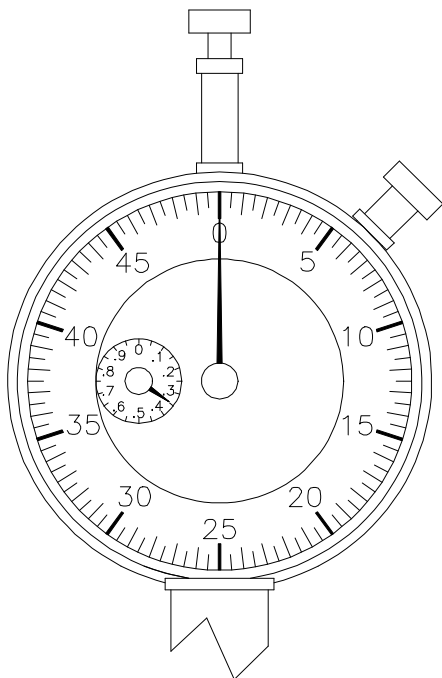

Figure 3.8: Dial Indicator at 0.3500
1. With the engraved arrow on the angle indicating apparatus at the 3 o'clock position (reference Photo A, Chapter III - page 6), set both dial indicators to 0.3500" (see Figure 3.8, Chapter III-page 25). Rotate the angle indicating apparatus 180 degrees in the mold carriage so that the engraved arrow is at the **9 o'clock position** (Photo E, item 1). If the zero degree position is correctly set, the dial indicator readings will remain within 0.3500" \pm 0.001" at the 9 o'clock position. If so, proceed to section 6.3, Chapter III - page 12. If the dial readings do not remain within 0.3500" \pm 0.001" at the 9 o'clock position, the zero degree position is incorrect and must be reset, proceed to step 2.
2. With the angle indicating apparatus at the **9 o'clock position**, set both dial indicators to 0.3500" (see Figure 3.8, Chapter III-page 25). Rotate the angle indicating apparatus (180 degrees) to the **3 o'clock position** (reference Photo A, Chapter III - page 6). Note the direction and the amount of change required to return dial A to 0.3500" (dial A is the left dial with the angle indicating apparatus at the 3 o'clock position). For example, if dial A reads 0.3515" the zero degree position must be raised 0.0015" to return the dial to 0.3500". Proceed to step 3 for instruction on adjusting the zero degree position.
1. Place the angle indicating apparatus so that the engraved arrow (Photo G, item 1) is at the 3 o'clock position. Press the ANGLE key and the UP ARROW key to tilt the mechanism to the inclined position so that the mold carriage may rotate. Reference section 7, Chapter III - page 25, figures 3.8 and 3.9 for instructions on reading the dial indicators.
Verify the angle of gyration utilizing the angle indicating apparatus. With the machine in the machine ready condition, place the angle indicating apparatus into the compaction chamber. With the engraved arrow on the angle indicating apparatus at the 3 o'clock position, set the bezel (large dial) on each indicator to zero. The small dial on each indicator should be at 0.35 (see Figure 3.8, Chapter III - page 25). Rotate the angle indicating apparatus 180° in the mold carriage so that the engraved arrow is at 9 o'clock. If the zero degree position is correctly set, the reading on each dial indicator will stay within 0.3500" +/- 0.001". If zero degree position is incorrect, refer to section 6.2, Chapter III - page 10 (zero degree position) steps 1 thru 4. Induce the angle of gyration by pressing the ANGLE and the UP ARROW keys at the same time. The difference between the dial indicator readings should be within 0.1083-0.1118 inch for 1.25±0.02 degrees. (See Table 3.1, Chapter III - page 18). Note: The difference between the dial readings can be as high as 0.1126 (1.28 degrees) to achieve a loaded angle measurement of 1.25±0.02 degrees.
When you install the angle indicating apparatus into your gyratory compactor without an angle applied, both dial indicators should read 0.3500 as shown in Figure 3.8 below. If each little dial is not on 0.35, loosen the set screw holding the indicator in the angle indicating apparatus and move the indicator up or down until the small dial reads exactly 0.35. Once the small dial reads 0.35, rotate the bezel (large black ring which rotates large dial numbers) so the large dial reads 0.0000. The indicator now reads 0.3500. For the angle verification jig which clamps to the mold, each indicator should read 0.2500.